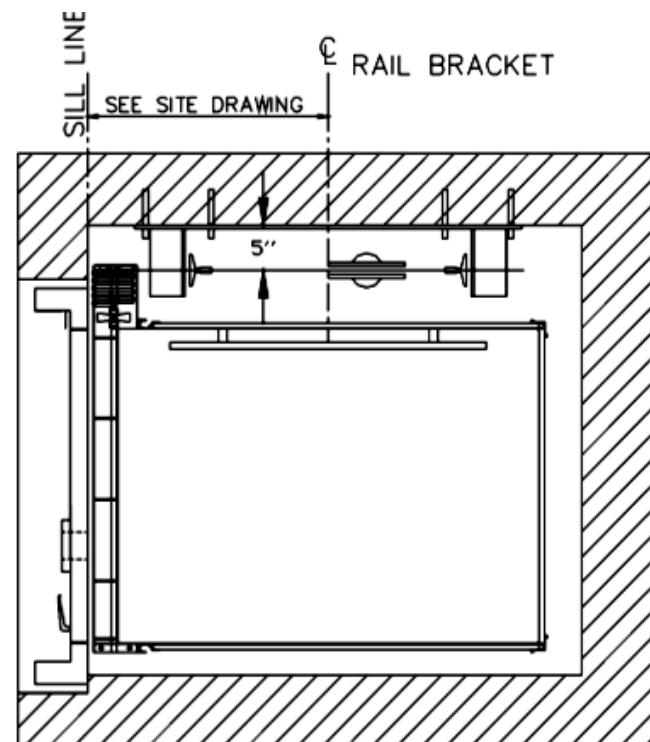

Figure 7 Installation Drawing
- 2) Locate the centerline of the rails as referenced from the “sill line” on the **Installation Drawings** supplied with each elevator (Figure 7).